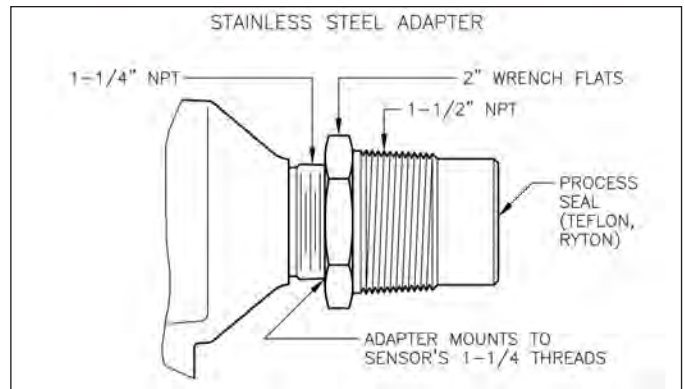

Figure 5
**Stainless Steel Adapter** - (See Figure 5) In some cases, the standard aluminum 1 1/4" NPT threads are not suitable for the application primarily due to poor abrasion or corrosion resistance. A stainless steel adapter with 1 1/2" NPT process connection threads can be installed to the standard sensor. Using a suitable mating 1 1/2" NPT half coupling will achieve flush mounting to the pipe/chute. Teflon® or Ryton® process seals can be used with this adapter.